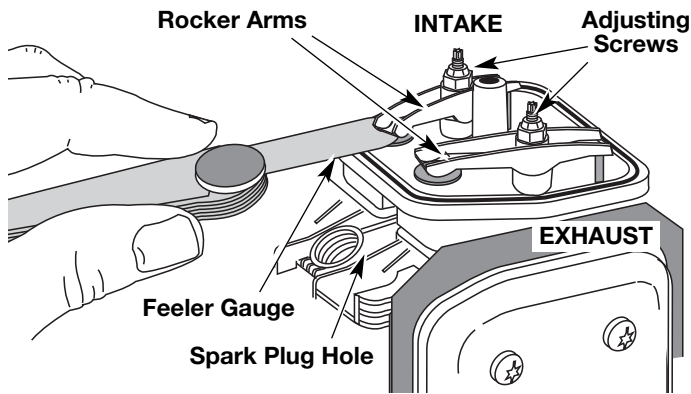

Fig. 32
- The piston is at the top of its travel. Look in the spark plug hole to view the piston (Fig. 32)
between the valve stem and rocker arm (Fig. 32). Measure both the intake and exhaust valves.
The recommended clearance for both intake and exhaust is .003-.006 in. (.076 - 0.152 mm). Use a standard automotive .005 in. (0.127 mm) feeler gauge. The feeler gauge should slide between the rocker arm and valve stem with a slight amount of resistance, without binding. See Figures 32 and 33.
- a. Turn the adjusting nut using a 5/16 inch (8 mm) wrench or nut driver (Fig. 32).